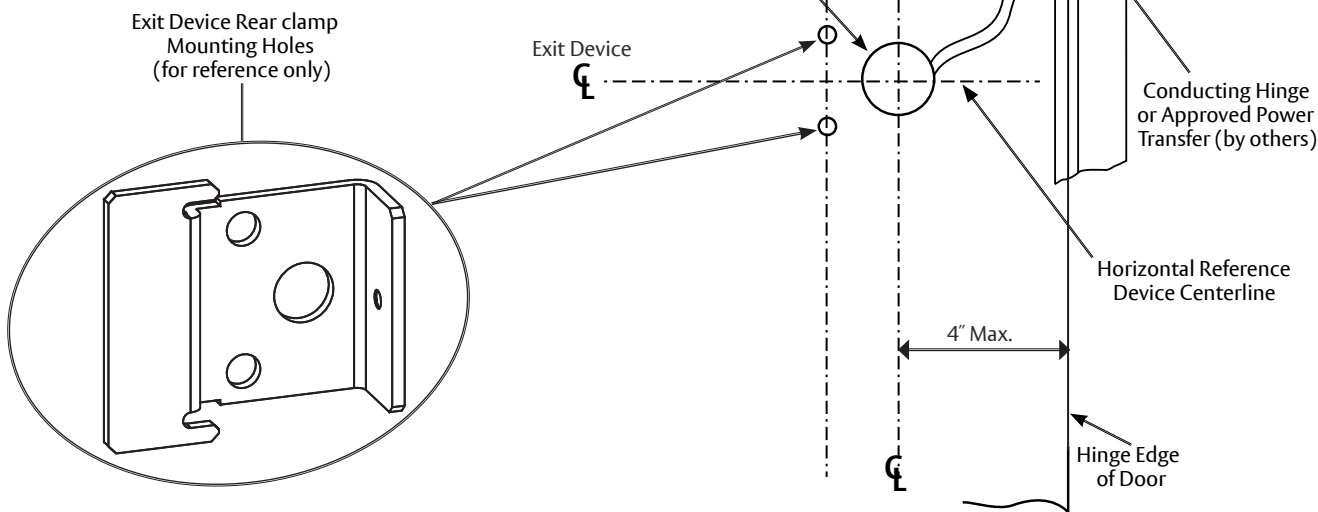

Figure 1: Door Preparation
3. Prepare Wiring Access Hole: Drill a 3/4" (19mm) diameter hole in the door using the rear clamp center hole as a guide (Figure 1).